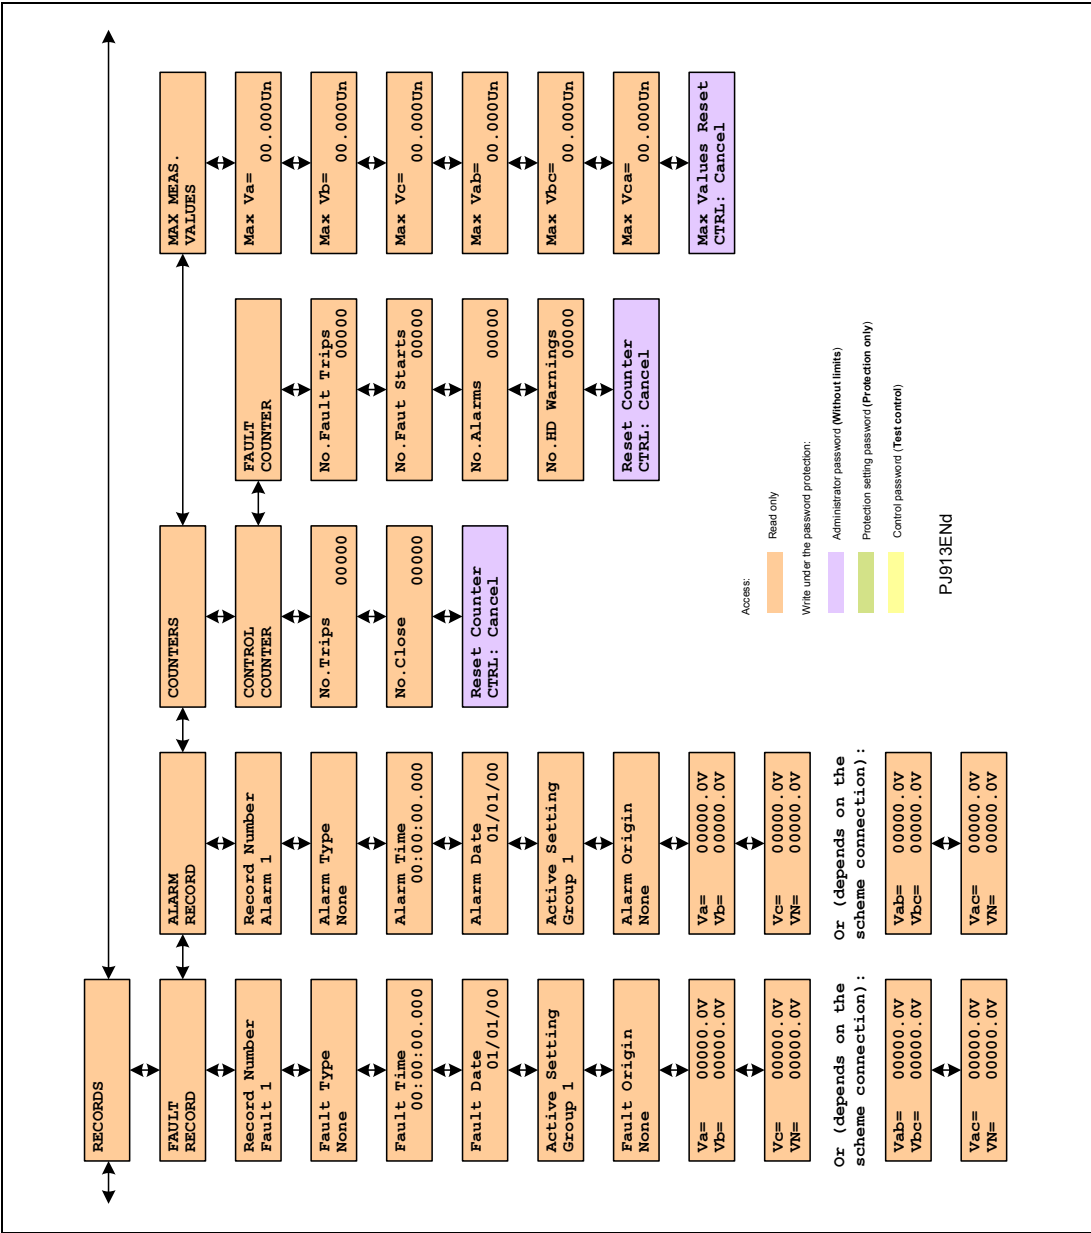

Figure 4: RECORDS column
**ALARM STATUS** (see Figure 4) information is available if the cause of alarm has been triggered. Therefore, if after pressing the  key the new cell is displayed, it means that no alarms have been detected.
Figure 4 shows all causes of alarms (if alarms have been enabled in the main configuration column of the protection function).